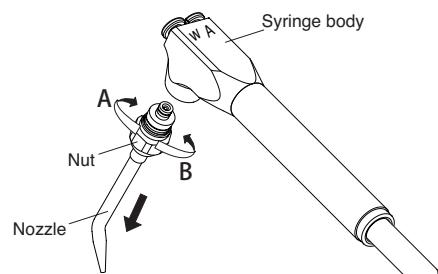

Fig.5-10 Belmont 77 Syringe
3. Belmont 77 Syringe (Fig.5-10)